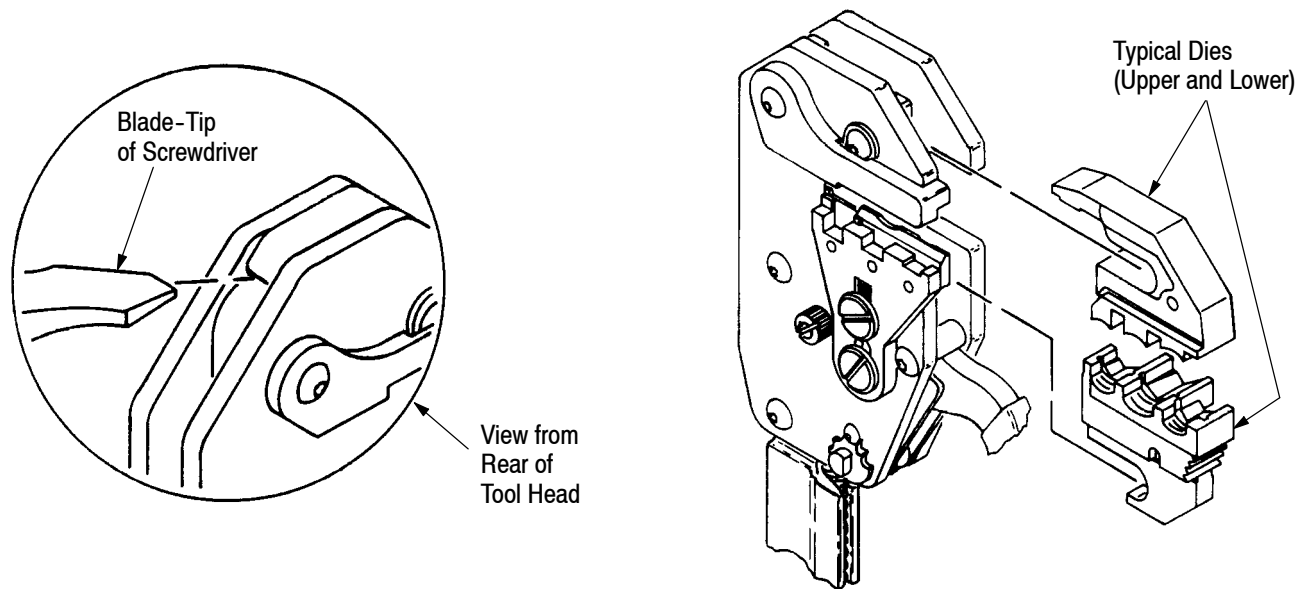

Figure 3
3.3. Die Removal (Figure 3)
1. Remove upper die by positioning the blade tip of a screwdriver behind and under the die. Push die outward and apply a rocking action to the die while pushing it out of the tool frame head. See inset, Figure 3.
3.4. Die Insertion (Figure 3)
1. Slide each die into the tool frame head as shown in Figure 3 until it “clicks” into position.